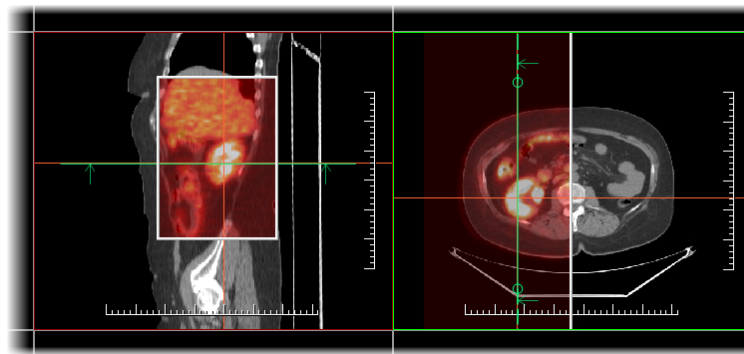

Figure 318 – Fusion images between CT and PET series
- **Vertical** - the view is divided with a vertical line; the image from the fusion series is displayed on the right (see Figure 318, right).
- **Rectangle** - the image from the overlaying series is displayed inside the rectangle (see Figure 318, left).